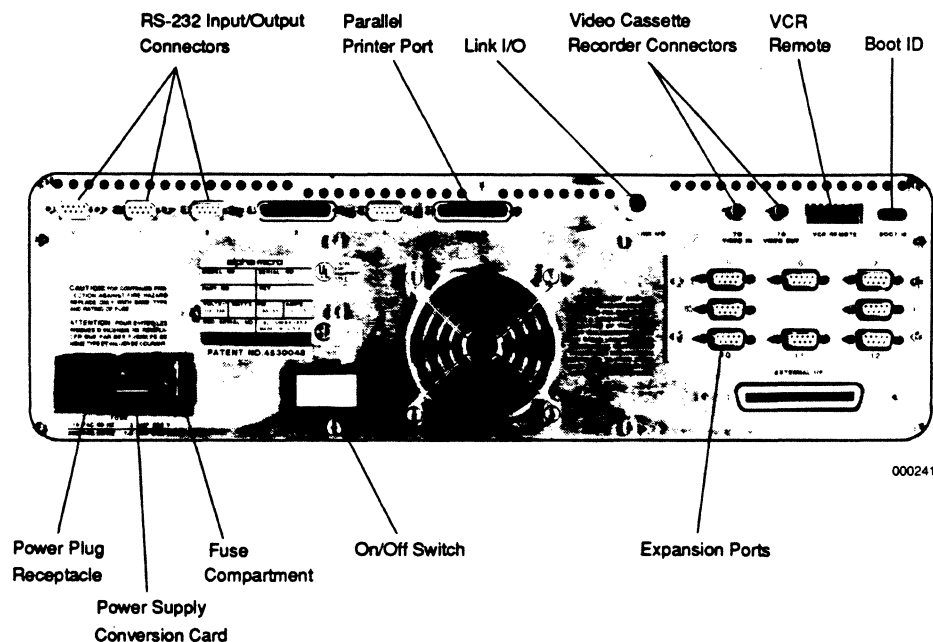

Figure 1
- o Two additional I/O ports are included in the base configuration (AM-1200B) compared to the AM-1000A, while a total of 13 I/O ports are included in the AM-1200E and XP. All I/O ports, with the exception of communication ports 3 and 4, support both RS-232 and RS-422 interface levels. Figure 1 illustrates external I/O connectors on the back panel.
series systems), making it much easier to reconfigure the system and diagnose problems. See Figure 1 for details.
Refer to the end of this article for Figure 1.